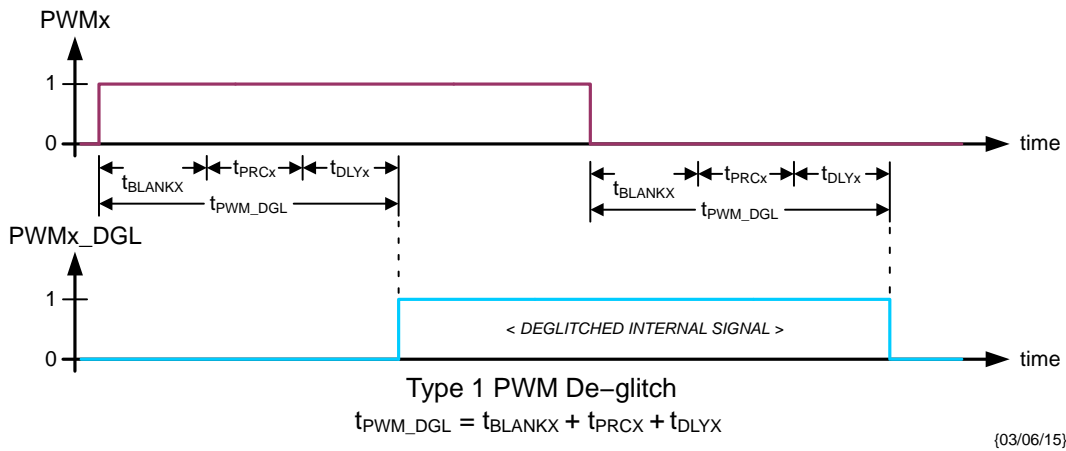
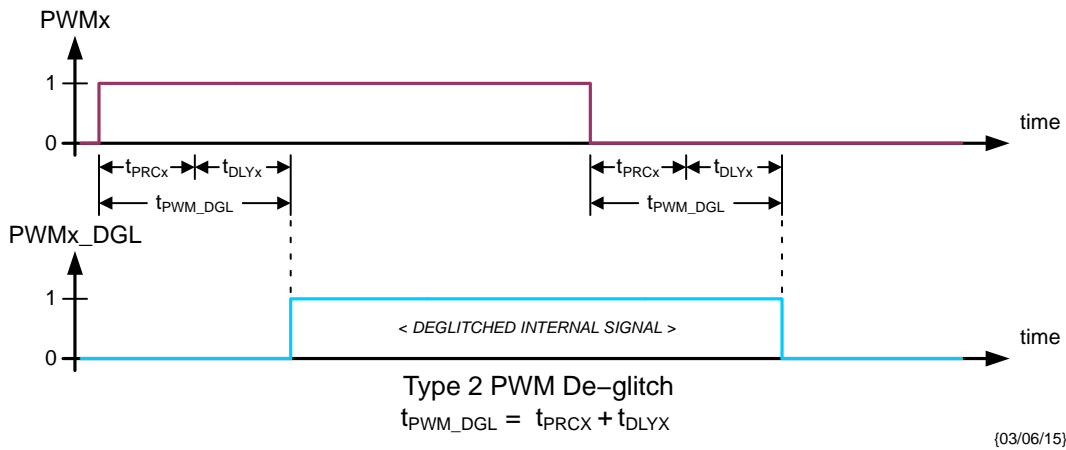
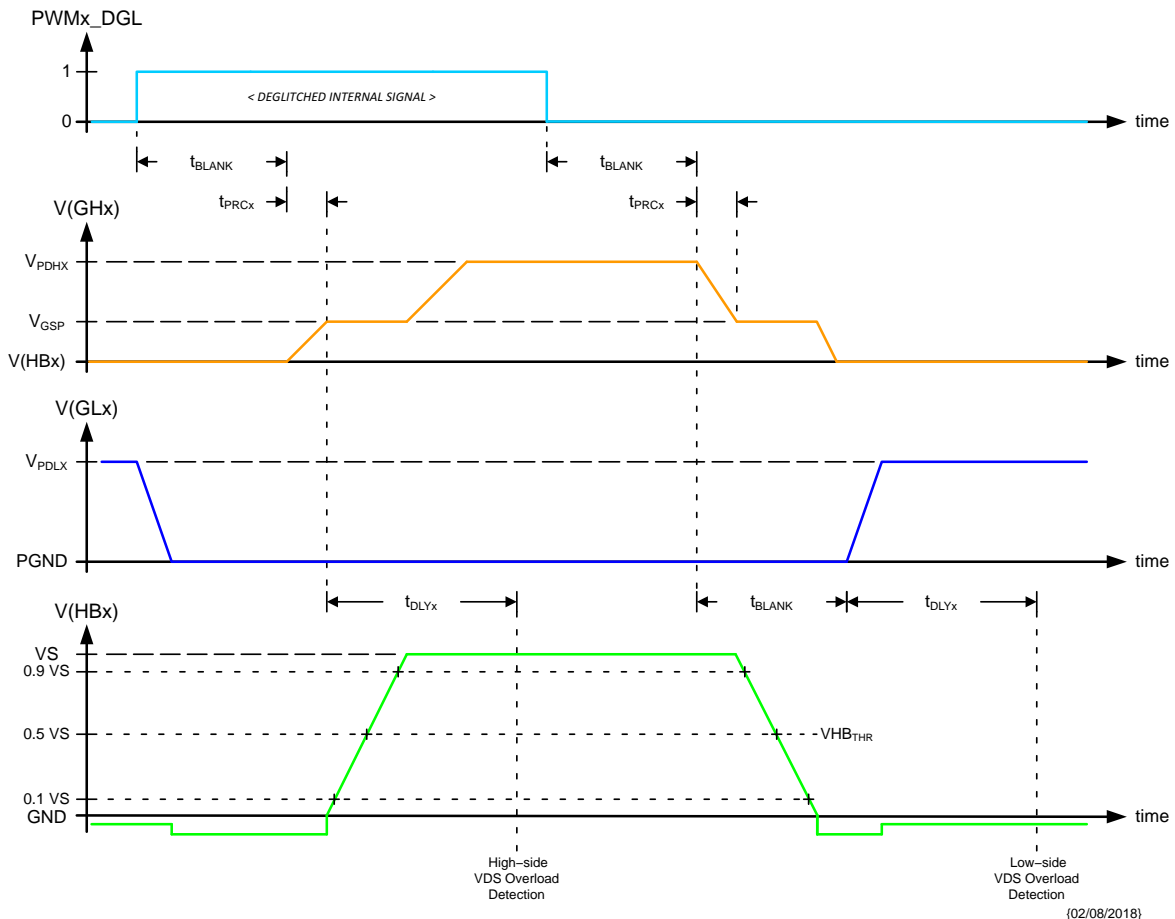

Figure 10. Type 1 PWMx Input De-glitch – CR14.DGLx = 0
Figure 11. Type 2 PWMx Input De-glitch – CR14.DGLx = 1
Figure 12. HBx Output Switching in Half-Bridge Configuration
When multiple PWMx inputs are needed to be active, the scheduled PWM signals should be offset in time to avoid degradation of the VDS overload detection due to crosstalk (see § *Overload Protection*). The minimum offset should be based on the tPWM\_DGL times appropriate for the respective channels (see § *Switching Behavior of Half-bridge Drivers*, Figure 10 and Figure 11).
- adaptive PWM input de-glitch construction when in half-bridge configuration is selected by DGLx[6:0] bits (see Figure 10, Figure 11, Table 21 and Table 22).
In order to not overload the charge pump circuit in case of loss of VS or in case of a disconnected security switch, the steady state output current of the high-side gate drivers is limited to IGHX\_SS after tTIMEOUT (see I(GHx) in Figure 12 and § *Electrical Characteristics: Half-Bridge Pre-Driver Outputs*).
When operating in PWM mode, type 1 de-glitch is selected when CR14.DGLx = 0 (see Figure 10) and the adapted time is given by:
Type 2 de-glitch is selected when CR14.DGLx = 1 (see Figure 11) and the adapted time is given by:
When operating in PWM mode, the timing of the gate drivers is according to Figure 12.
- the PWMx\_DGL resulting from the channel's operating configuration (see § *Switching Behavior of Half-bridge Drivers*, Figure 10 and Figure 11);
The appropriate latch is set (after the adapted  $t_{PWM\_DGL}$  – see Figure 10 and Figure 11) at the start of the switch activation (see V(HBx) in Figure 12). In the case of the high-side MOS, the delay time  $t_{DLYX}$  is started at the end of the pre-charge time ( $t_{PRCX}$ ). In the case of the low-side MOS, the delay time  $t_{DLYX}$  is started concurrent with the GLx turn-on current (see I(GLx) in Figure 11). At the end of time  $t_{DLYX}$  the switching node voltage is compared with the appropriate  $VDS_{THR\_R}$  or  $VDS_{THR\_F}$  overload detection threshold (see § *Electrical Characteristics: Half-Bridge Diagnostics*).